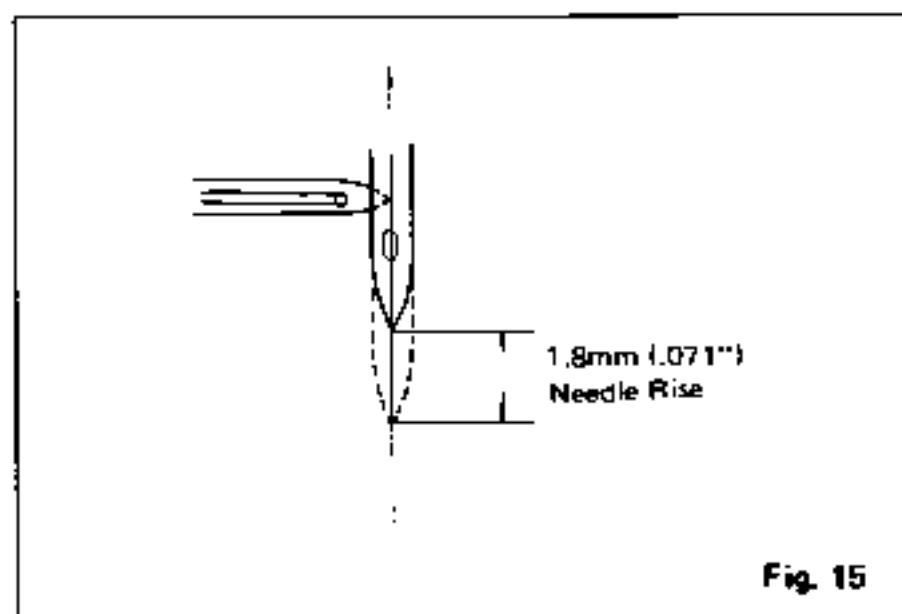

Fig. 15
- Maintain this needle bar rise and loosen left hand looper drive cam set screws and rotate drive cam until the looper point on its forward path, is on the center line of needle as shown in Fig. 15. Securely tighten drive cam set screws.